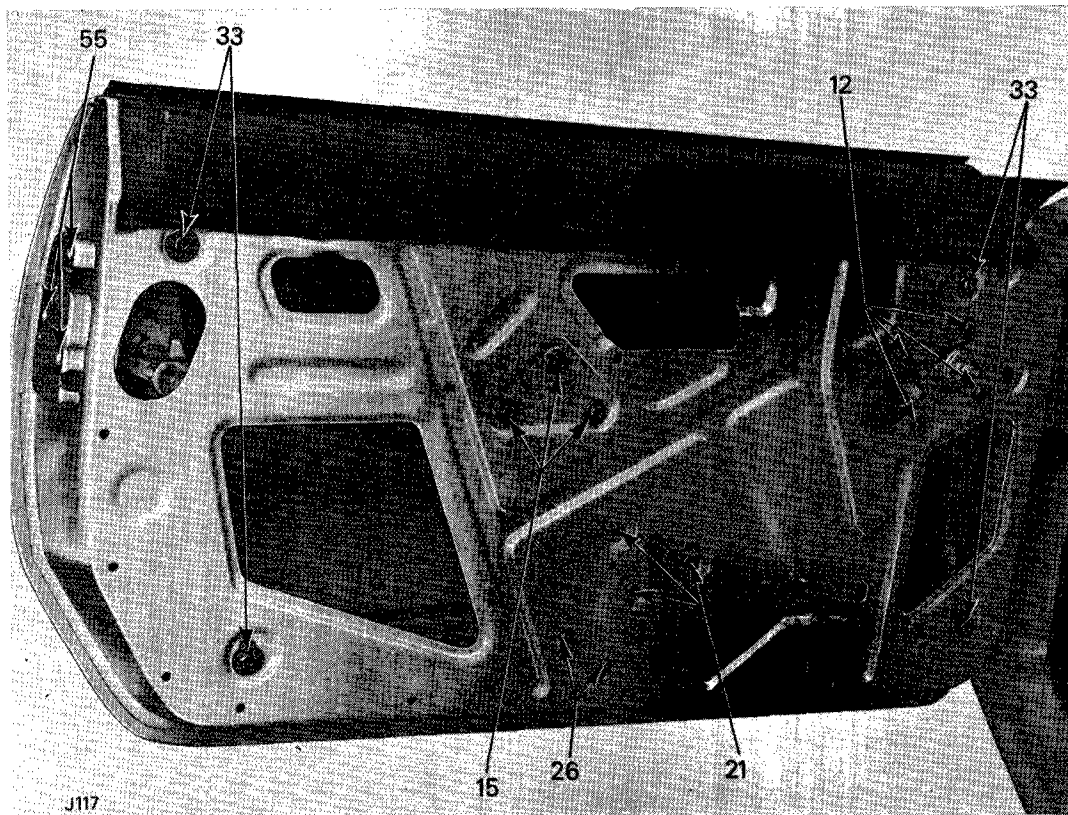

Fig. 34. Door component fixings (Spitfire Mk. 2 and 3)
- 1 & 2 To Remove and Refit (Fig. 34) - procedure as for Spitfire 4.
- 1 & 2 **To Remove and Refit** (Fig. 34) – procedure as for Spitfire 4.